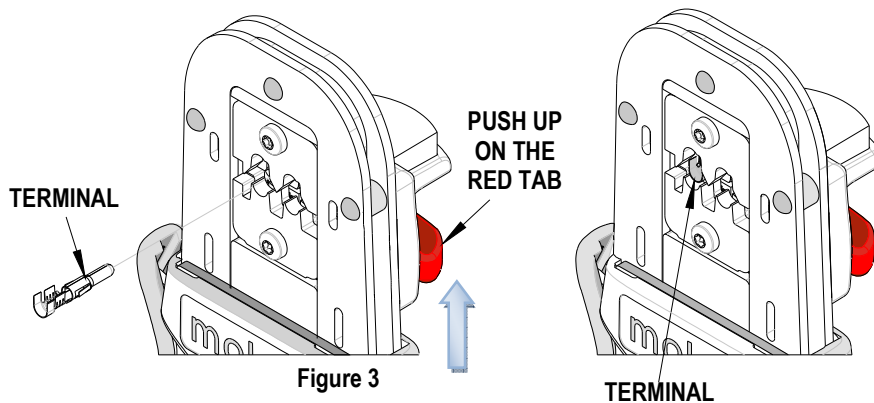

Figure 3
3. The spring loaded wire stop should be clear of the locator's cavity, if not push up on the red tab to move the wire stop out of the way while inserting the terminal. See Figure 3.
4. Load the terminal into the proper nest opening in the locator based on the wire gauge or terminal type markings on the hand tooling. See Figure 3.